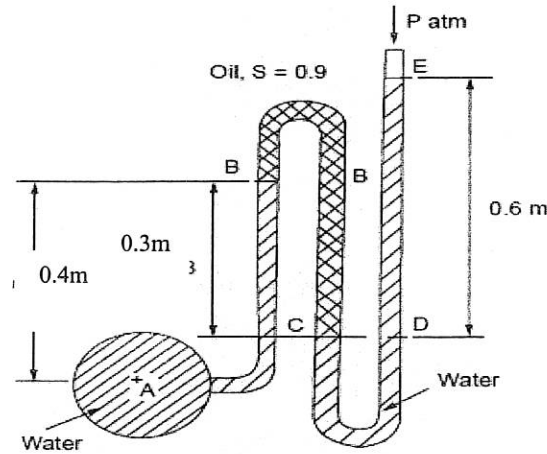

Figure 2(b)
- b) A multiple U-tube manometer is fitted to a pipe with a centre at A as shown in Figure 2(b). Determine the pressure at A.